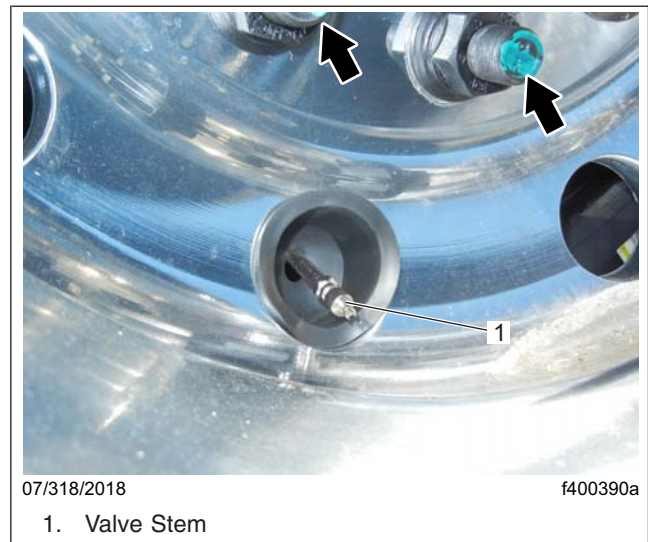

Fig. 11, Marking Wheel Studs
5. Mark the two studs closest to the valve stem as shown in Fig. 11, for proper wheel assembly location when reinstalling the wheel assembly on the hub.